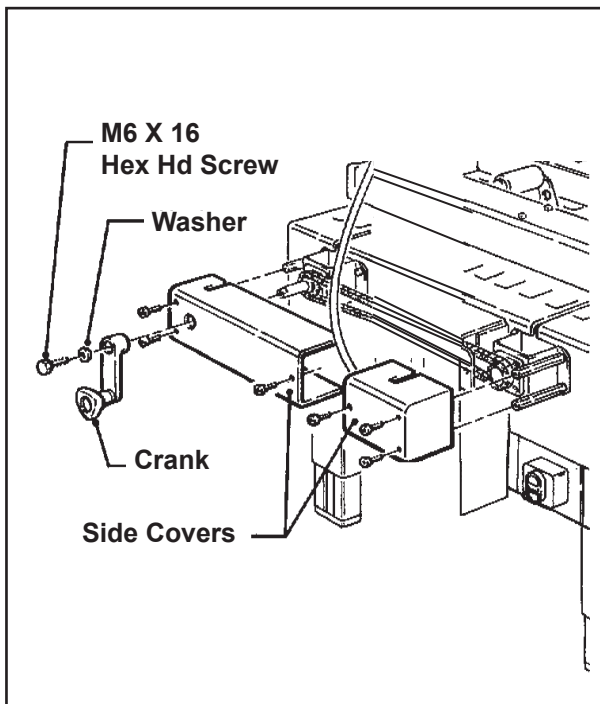

Figure 13-10 – Crank/Chain Guards
1. Remove M6 x 16 hex hd screw, special washer and drive belt width adjustment crank - **Figure 13-10.**
2. Remove side covers (2) from each side of machine bed - **Figure 13-10.**